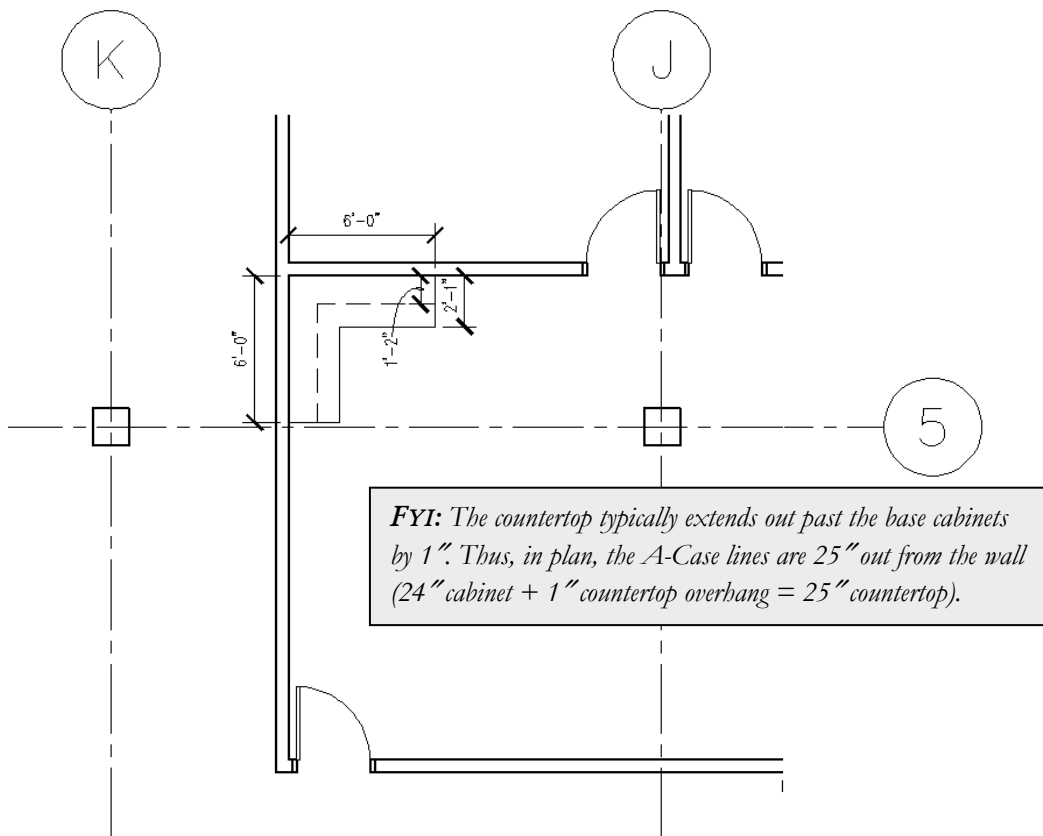

FIGURE 4-2.1 Drawing the work area casework
1. Draw the casework shown in Figure 4-2.1, *plus*: